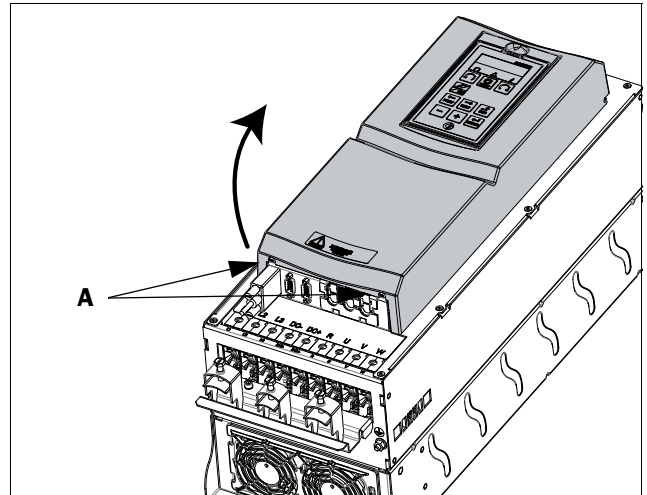

Fig. 35 Remove the front cover on frame size C2 - F2 and FA2 (principle drawing).
- Loosen the two screws A (see fig. 35) at the bottom of the cover a couple of turns (you do not have to remove the screws).